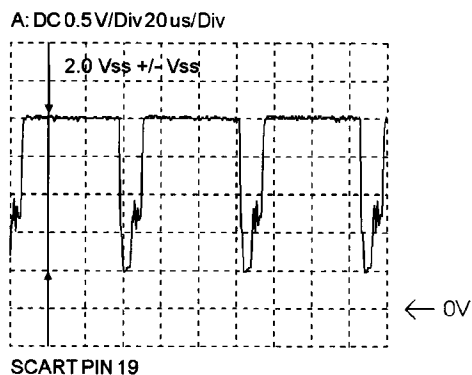

Fig. 4
(Fig. 4) (-17.4 dB relative to the luminance signal).
- Adjust resistor 3039 until the amplitude of the output signal is  $2.0 V_{pp} \pm 0.1 V_{pp}$  (Fig. 4).